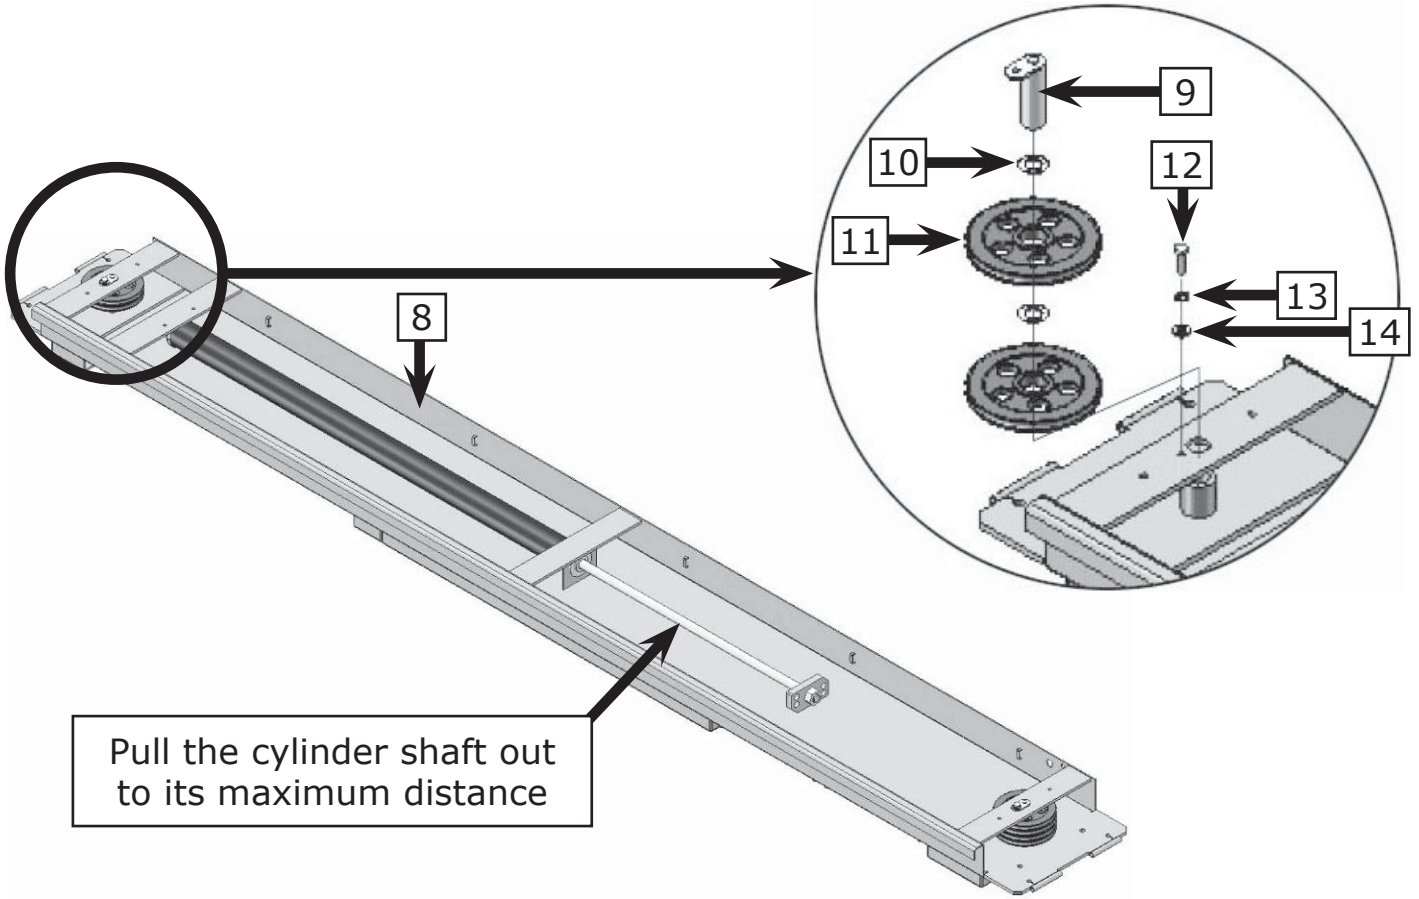

Fig. 18
1. Loosen one side of the pulley (See Fig. 18).